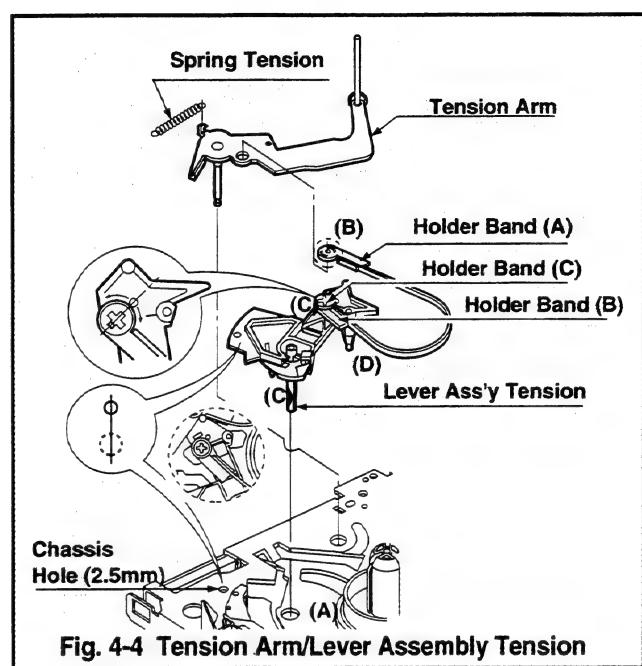

Fig. 4-4 Tension Arm/Lever Assembly Tension
2. Tension Arm/Lever Assembly Tension (Fig. 4-4)